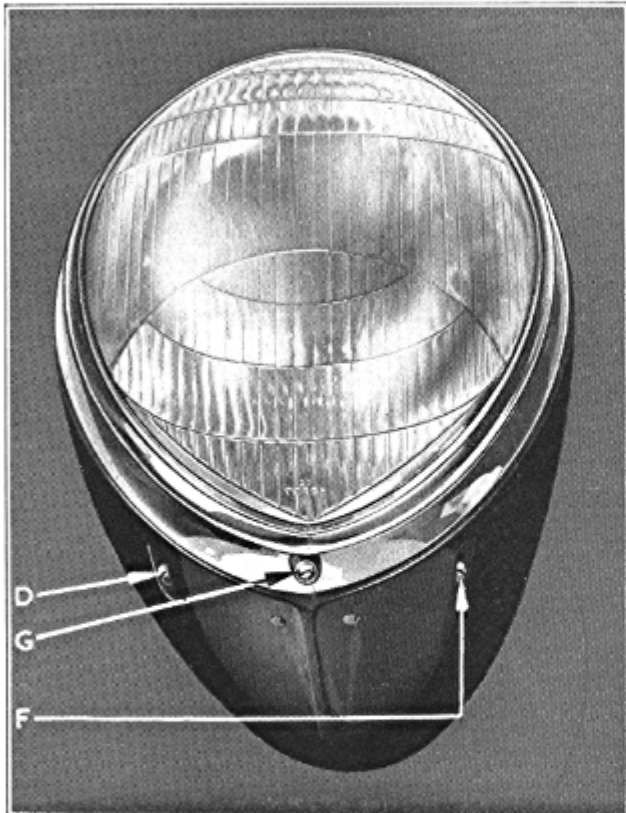

FIG. 2
**TO ADJUST BEAM VERTICALLY**—Turn both adjusting screws 'D' and 'F', Figure 2, with a narrow screw-driver the same number of turns clockwise to raise the beam and counter-clockwise to lower the beam.
**TO ADJUST BEAM HORIZONTALLY**—To move beam toward right, turn the right adjusting screw 'D'—figure 2—counter-clockwise until beam has moved approximately half the desired distance to the right. Turn left adjusting screw 'F' clockwise until beam has reached the proper position on the horizontal axis. It may be necessary to readjust the beam